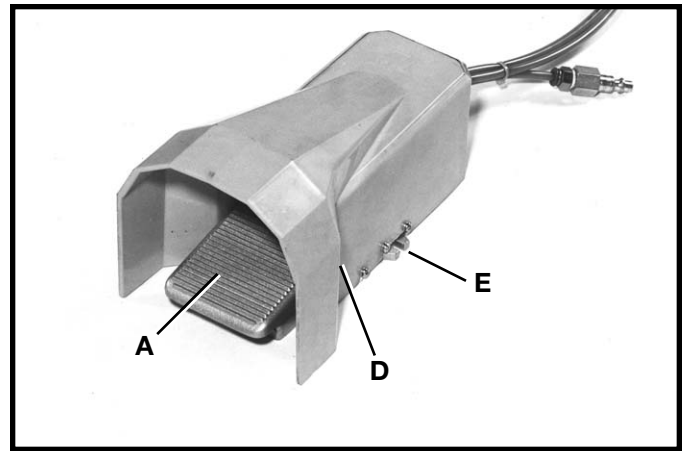
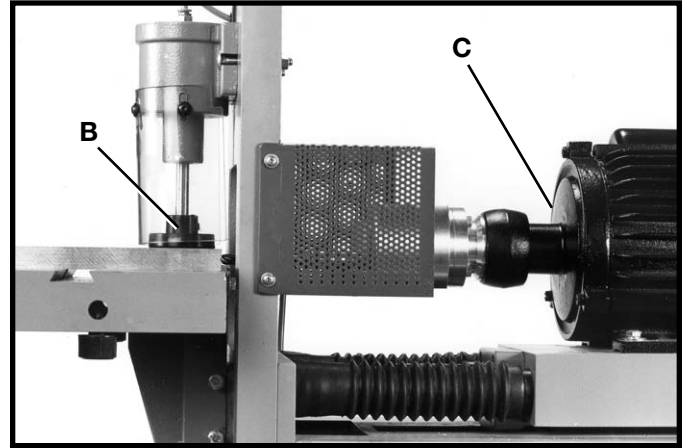

Fig. 25
Fig. 26
1. Pushing halfway down on foot pedal (A) Fig. 25, will lower the work holddown (B) Fig. 26, when set properly against the work surface as shown.
2. Once the workpiece is secure on the table, continue to push down on the foot pedal to activate forward movement of the boring head carriage (C) Fig. 26.
3. After the drilling operation is completed, slowly release foot pressure from the foot pedal (A) Fig. 25, to retract the work holddown (B) Fig. 26 and boring head carriage (C).
During operation if there is any tendency for the foot pedal assembly (D) Fig. 25, to tip over, slide or “walk” across the floor surface, the foot pedal assembly (D) must be secured to a stationary support, such as a heavy wooden block or the floor through two mounting lugs (E), one of which is shown.